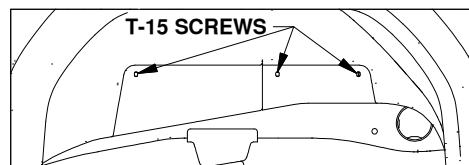

Figure A2: View looking into driver side wheel well.
- 8. Un-attach the wheel well liners.** Check for the presence of flexible wheel well liners in the truck wheel wells. If present, three T-15 Torx screws will need to be removed so that the liners can be folded up and allow access to the frame, see Figure A2. Retain screws for later re-installation.